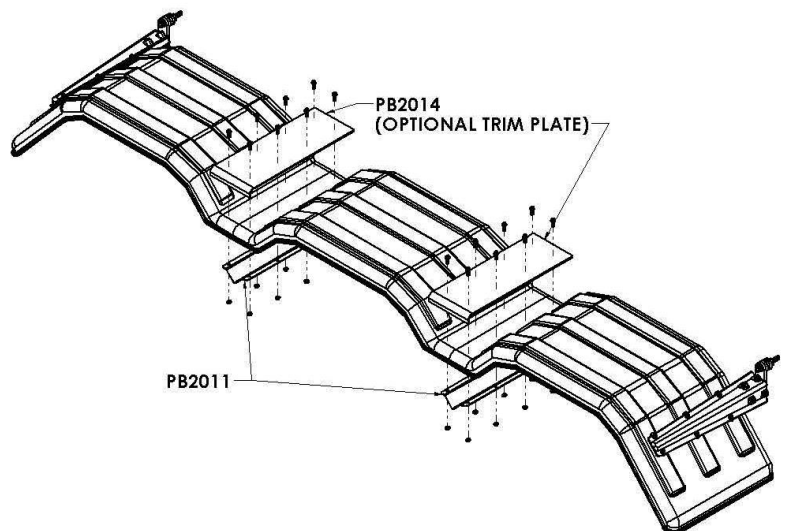

Figure 4
C. Draw outline of the area that needs to be cut out similar to Figure 4.